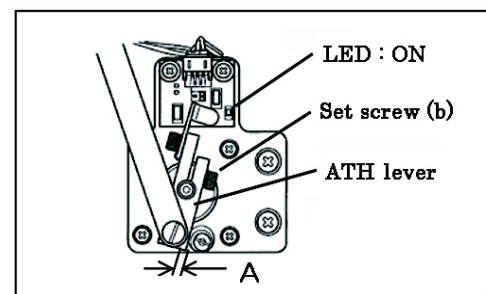

Fig.3
1. Adjust the clearance to the stopper by loosening the ATH lever set screw (b).(Fig. 3)